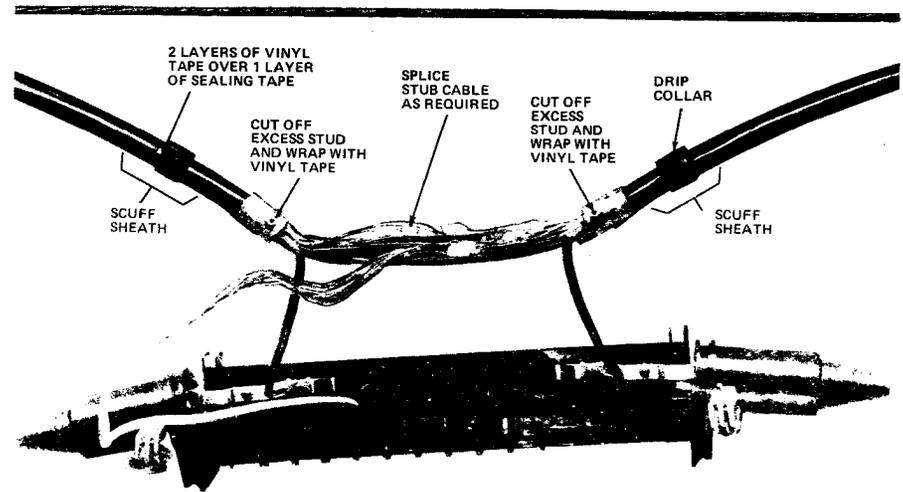

Fig. 28—Installing Drip Collars (105B-Type Cable Terminal)
4.22 Place the drip collars just outside the bond clamps (Fig. 28) as follows:
assigned cable pairs using an approved connector (Fig. 28).